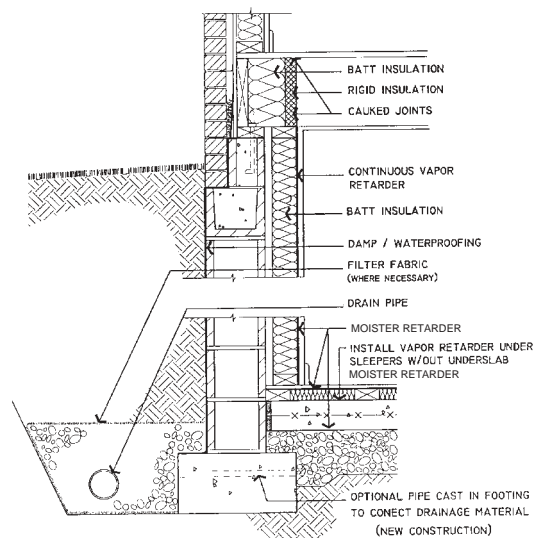

FIGURE 2.
**ADVANTAGES:** Interior applied insulation (Fig. 2) is easier to install than exterior applications; can be fairly inexpensive to install in batt form.